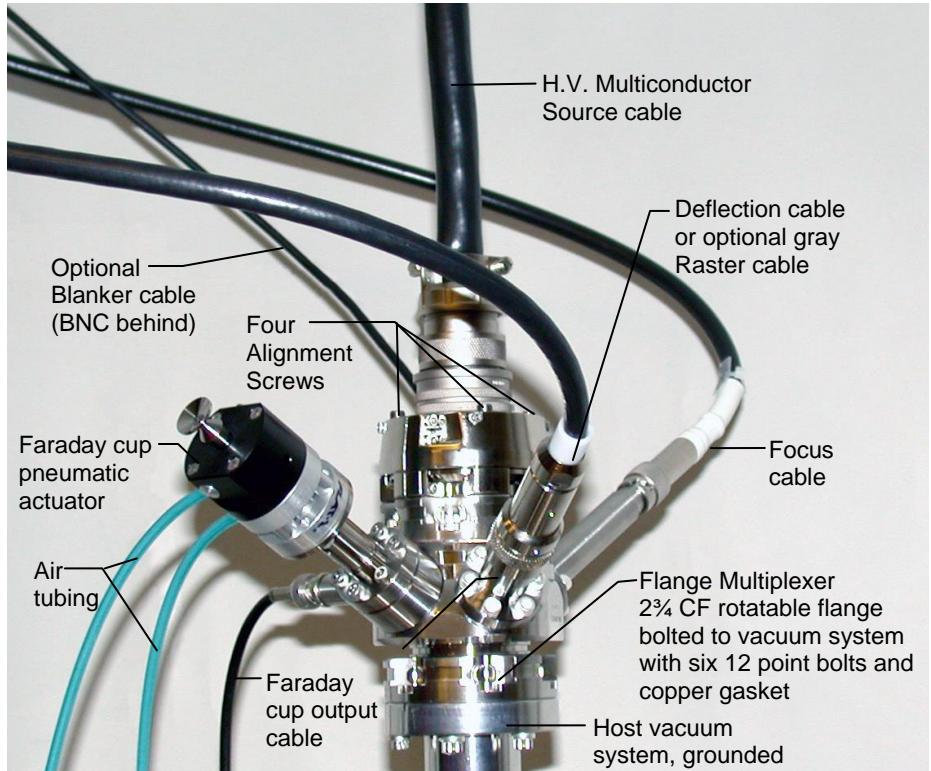

Fig. 2.3-3 EGG-3101 installed in vacuum
6. H.V. Multiconductor Source cable (Figs. 2.3-3 and 2.3-4):